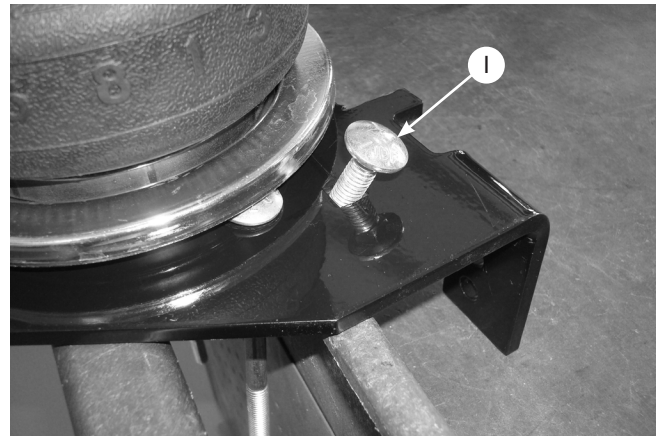
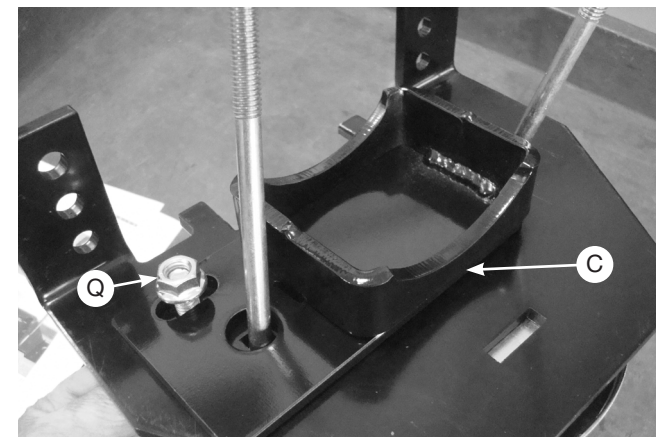

Fig. 13
Fig. 14
6. Insert the 3/8"-16 X 1.00" carriage bolt (I) (Fig. 13) through the top of the lower bracket. Flip over the assembly and install the lower bracket cup (C) onto the lower bracket main plate over carriage bolt and cap with serrated flange lock nut (Q) (Fig. 14). Snug bolt down but leave loose enough for the bracket to move freely in slot.